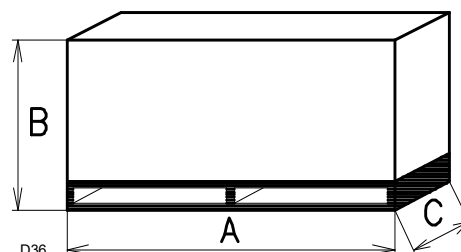

Fig. 1
- ▶ The packaging of the burner (Fig. 1) rests on a wooden platform that is particularly suitable for lift trucks. The overall dimensions of the packaging are shown in the Tab. D.